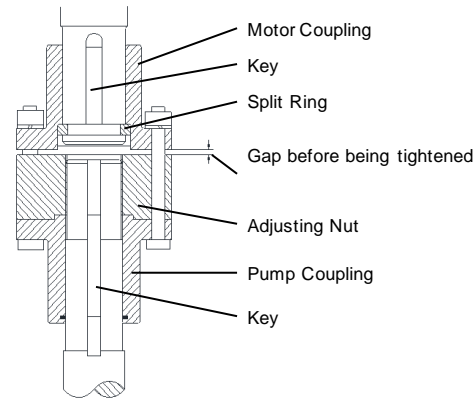

Fig. 15 Motor Coupling
7. Rotate the adjusting nut as necessary to obtain a gap of 0.0625 inch (1.6 mm) between the lower face of the driver half coupling, or spacer if applicable, and the upper surface of the adjusting nut as shown in fig. 15. Rotate the adjusting nut to align bolt holes